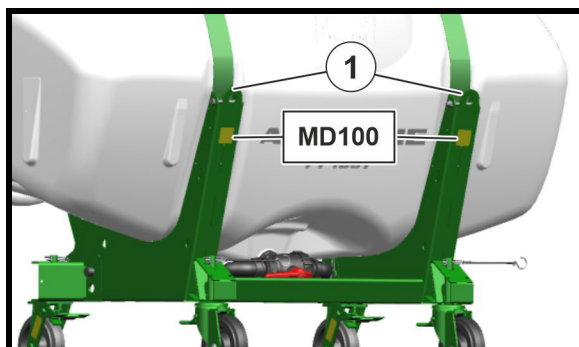

Fig. 3
- Two attachment points in front (Fig. 3/1)
When loading the machine using a lifting crane, use the marked attachment points (Fig. 3/1) for lifting belts.